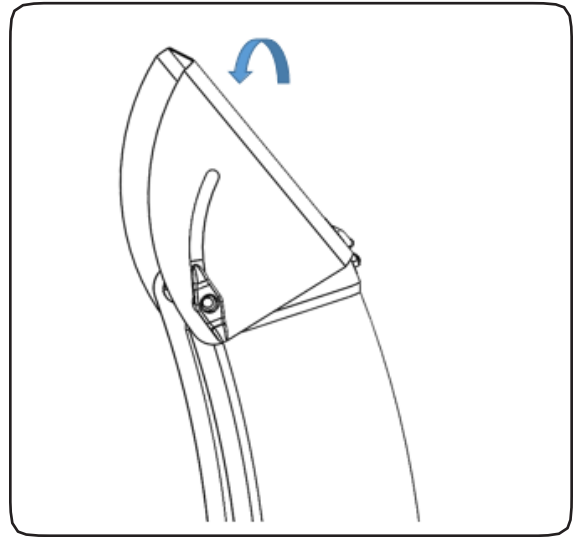

Figure 3-4
1. Loosen the knob on the top of the chute to adjust the top of the chute to the desired location, as shown in figure 3-4.